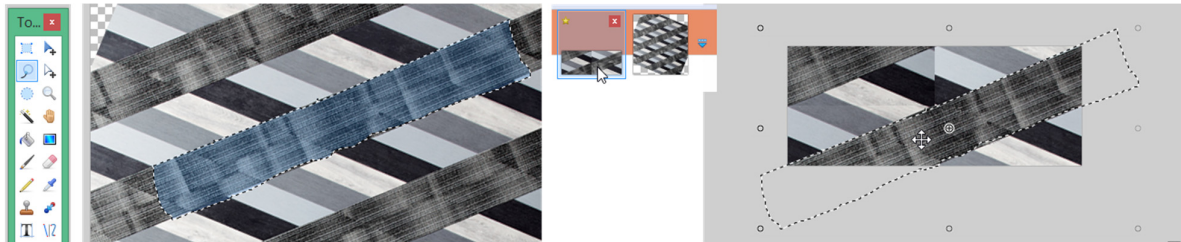

Figure 26—Copy and paste a portion of the old image into the new one
- ⇒ In the “Paste” dialog that appears, choose Keep canvas size. Drag the layer to position it (see Figure 26).